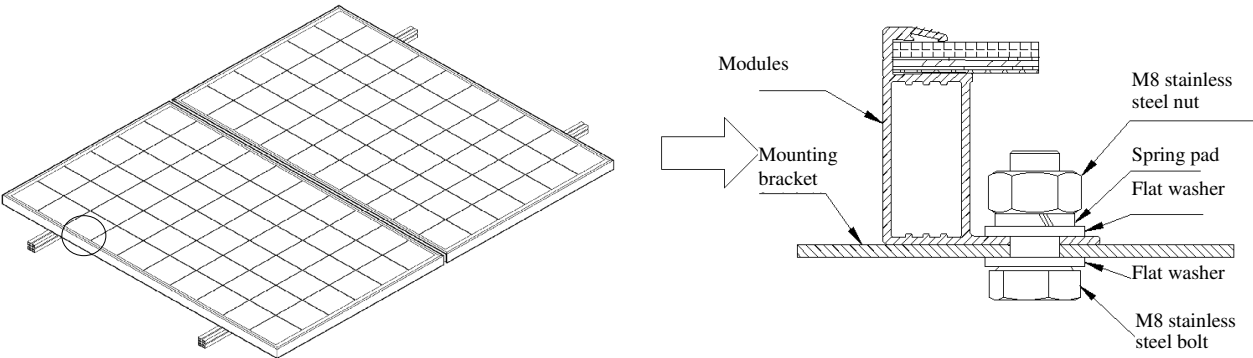

Figure 3 Installation of mounting hole
- Installation of mounting hole: Use corrosion-resistant M8 bolts and fix them to the mounting bracket through the mounting holes on the assembly frame, as shown in Figure 3;